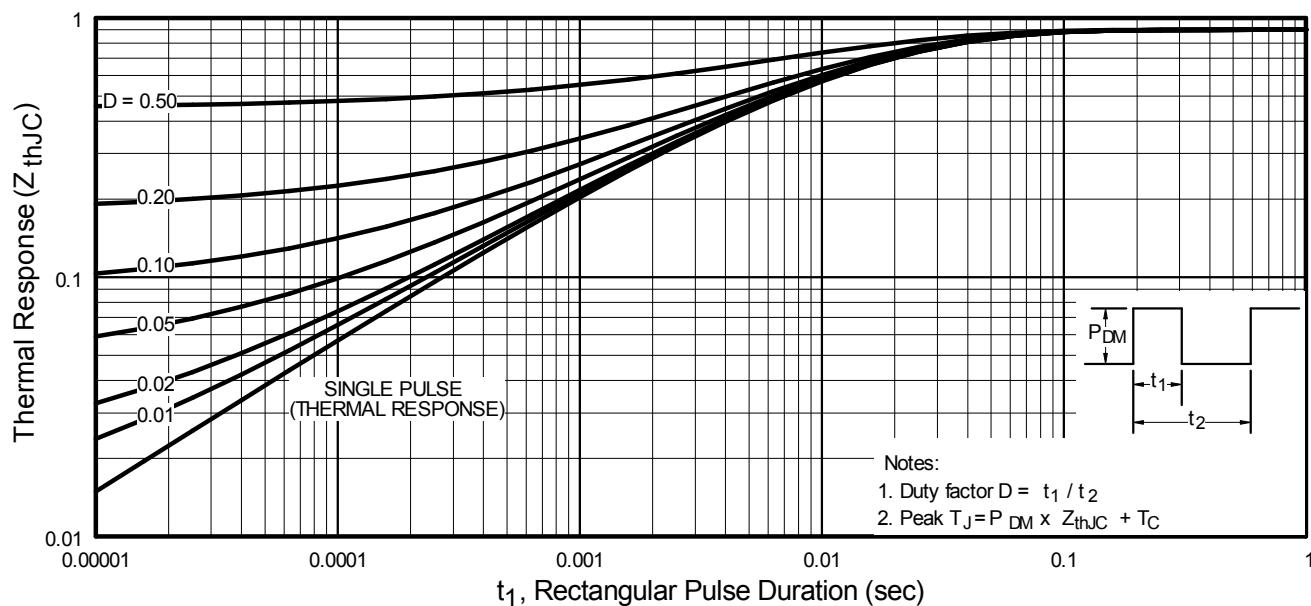

Fig 11. Maximum Effective Transient Thermal Impedance, Junction-to-Case
- ① Repetitive rating; pulse width limited by max. junction temperature. (See fig.11)